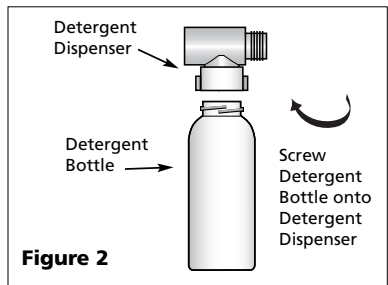

Figure 2
2. To use Detergent Dispenser (Figure 2), unscrew Detergent Bottle and pour desired amount of liquid detergent or wax into it. Screw Detergent Bottle onto Detergent Dispenser.